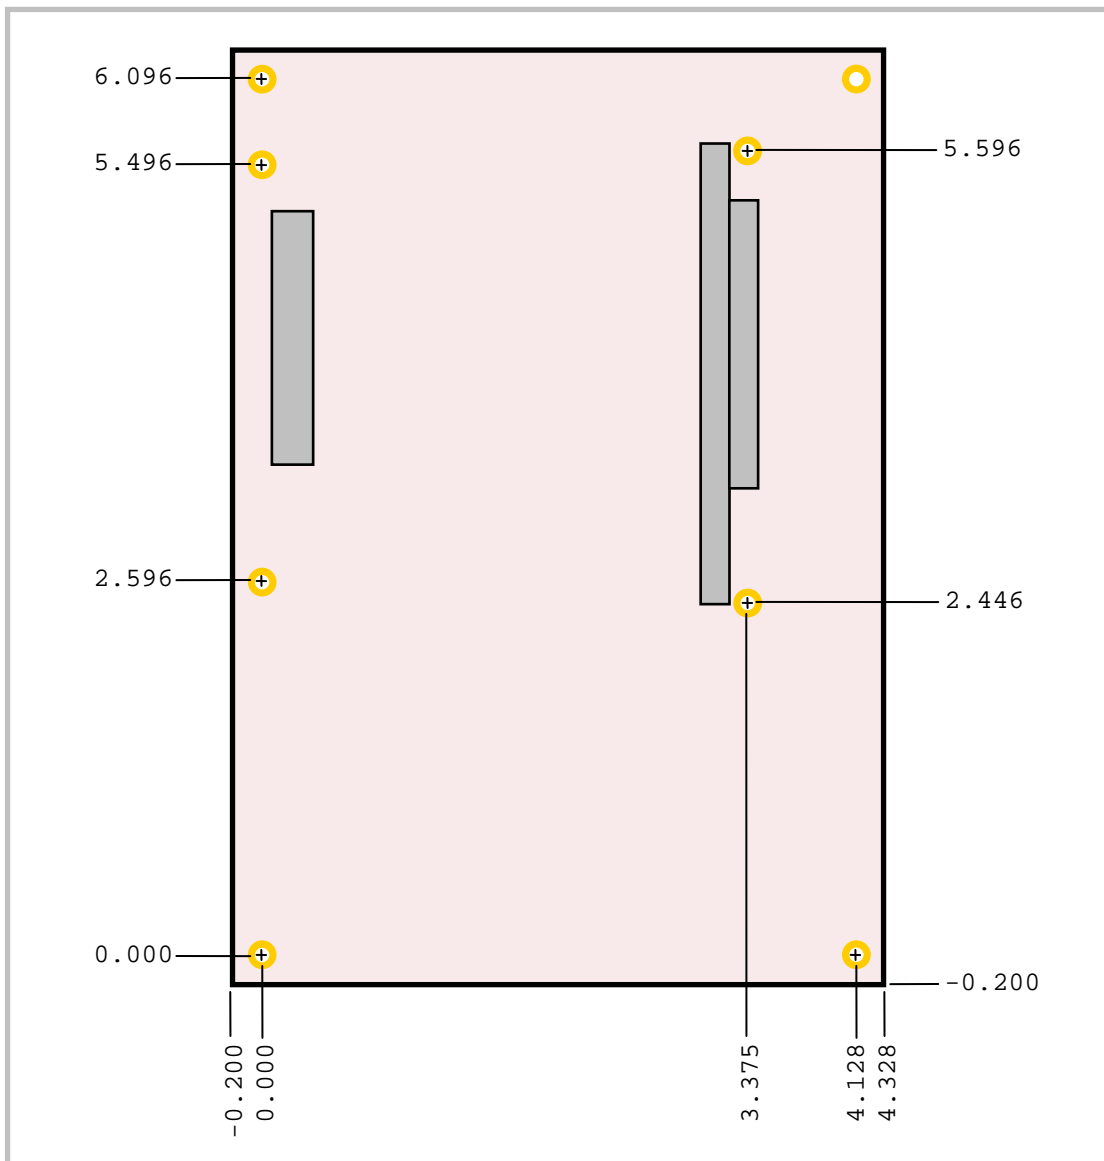

Figure 3. VL-EPIC-17 Dimensions and Mounting Holes
2. The PCB Origin is the mounting hole to the lower left as shown in Figure 3. All measurements in millimeters.